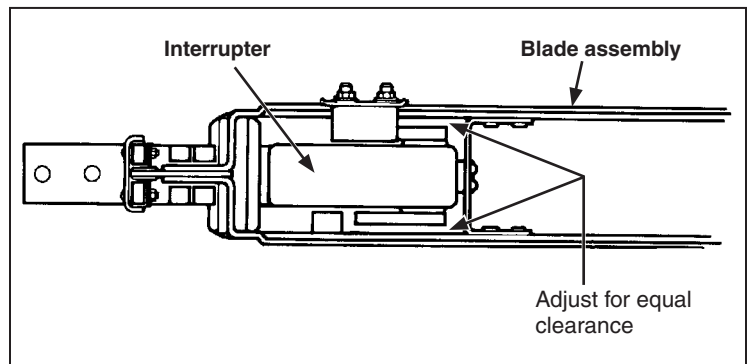

Figure 44. The blade assembly in the fully closed position.
STEP 34. The interrupter must lie in a plane parallel to the sweep of the blades, and the blades must pass over the interrupter with approximately equal clearance on both sides. See Figure 44.